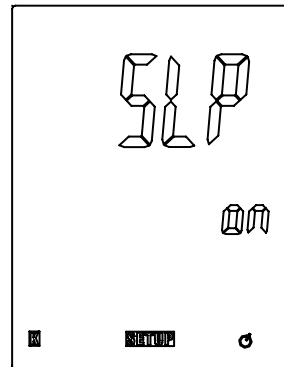

Fig. 5
2. Press **Enter** button to display "On" (Fig. 5).